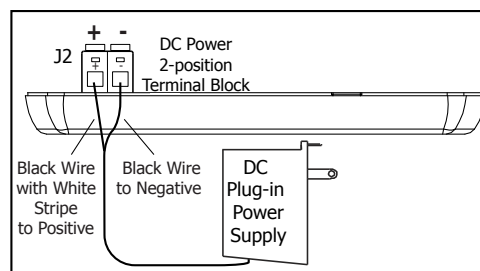

Figure 4: 1116 Side View
3. Wire the power supply to the J2 terminal block. Connect the Black wire with the White stripe to the positive terminal and the Black wire to the negative terminal. See Figure 4.